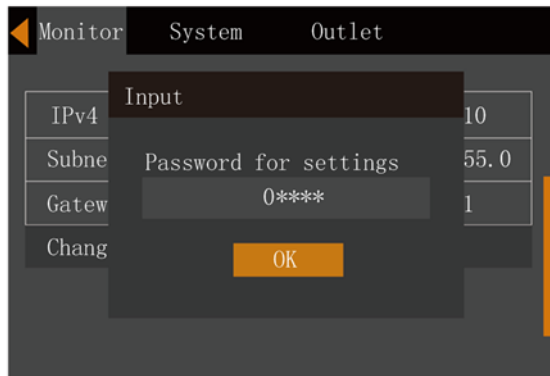

Figure 5-26 Settings password
3. Press the  key, the interface shown in Figure 5-26 will appear.